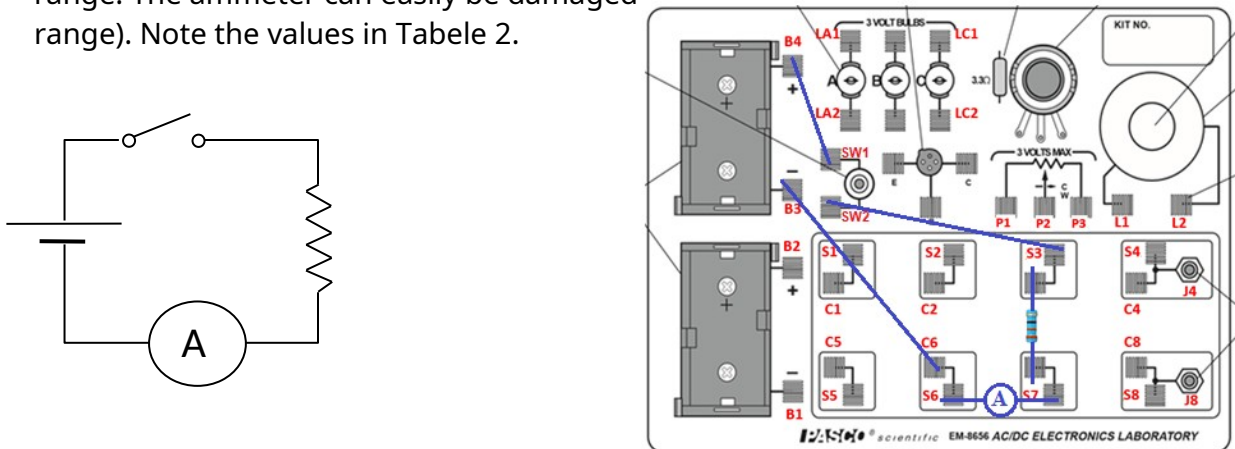

Figure 9: Current Through Resistor, Circuit Diagram and Setup on the AC/DC Box
C. **Current Through Resistors (Figure 9)**